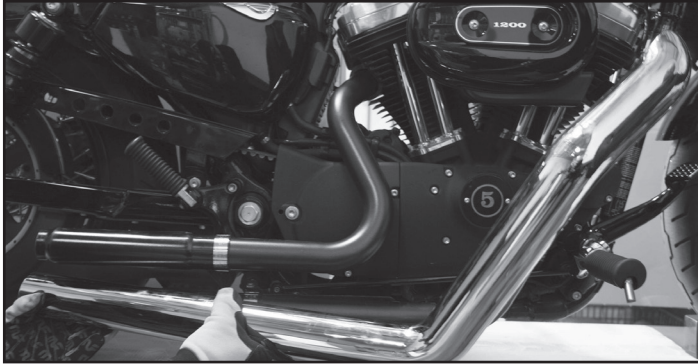

Fig. 9a
- Attach the heat shields to the front and rear head pipes using the heat shield clamps. Do not tighten the clamp at this time to allow for adjustment. (Figure 9a, 9b)